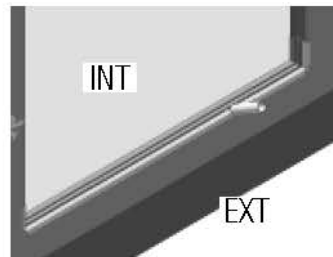

FIG. 8
- G) Apply two (2) continuous, straight beads of 100% silicone sealant to the subfloor to seal the sill to the subfloor. (Fig. 8 & 9)